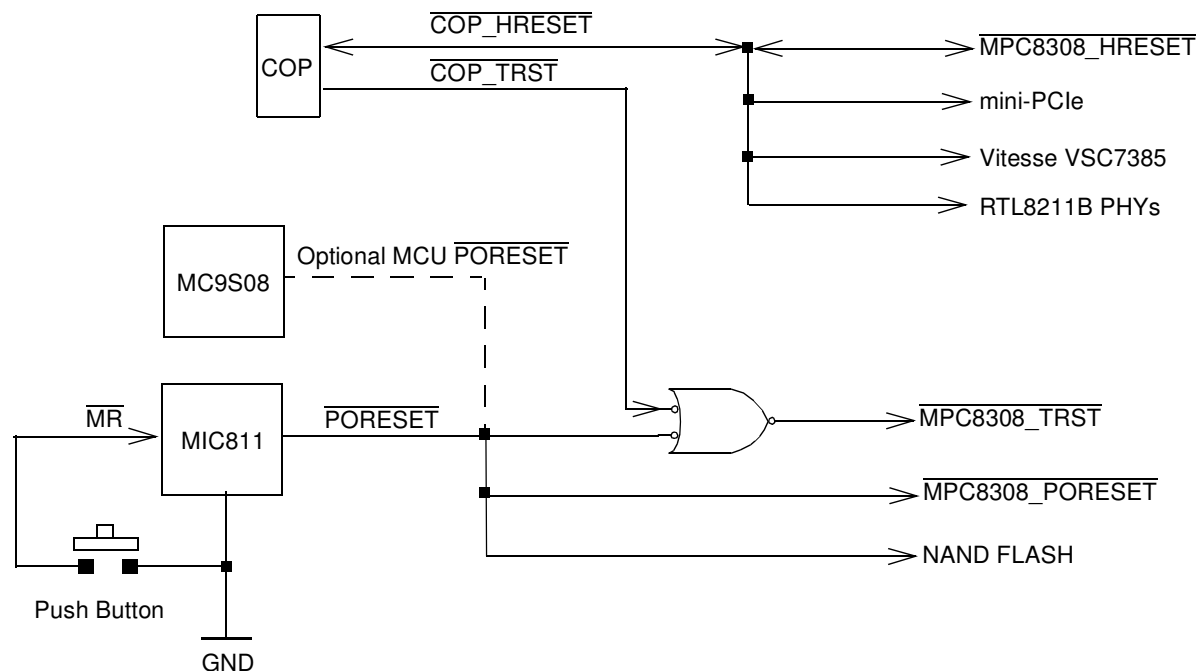

Figure 3. Reset Circuitry of the MPC8308
The MPC8308\_RDB reset module generates a single reset to the MPC8308 and other peripherals on the board. The reset unit provides power-on reset, hard reset, and soft reset signals in compliance with the MPC8308 hardware specification. Figure 3 shows the reset circuitry. Notice the following:
- COP/JTAG port reset provides convenient hard-reset capability for a COP/JTAG controller. The  $\overline{\text{HRESET}}$  line is available at the COP/JTAG port connector. The COP/JTAG controller can directly generate the hard-reset signal by asserting this line low. The arrangement shown in Figure 3 allows the COP to independently assert  $\overline{\text{HRESET}}$  or  $\overline{\text{TRST}}$ , while ensuring that the MPC8308 can drive  $\overline{\text{HRESET}}$  as well.